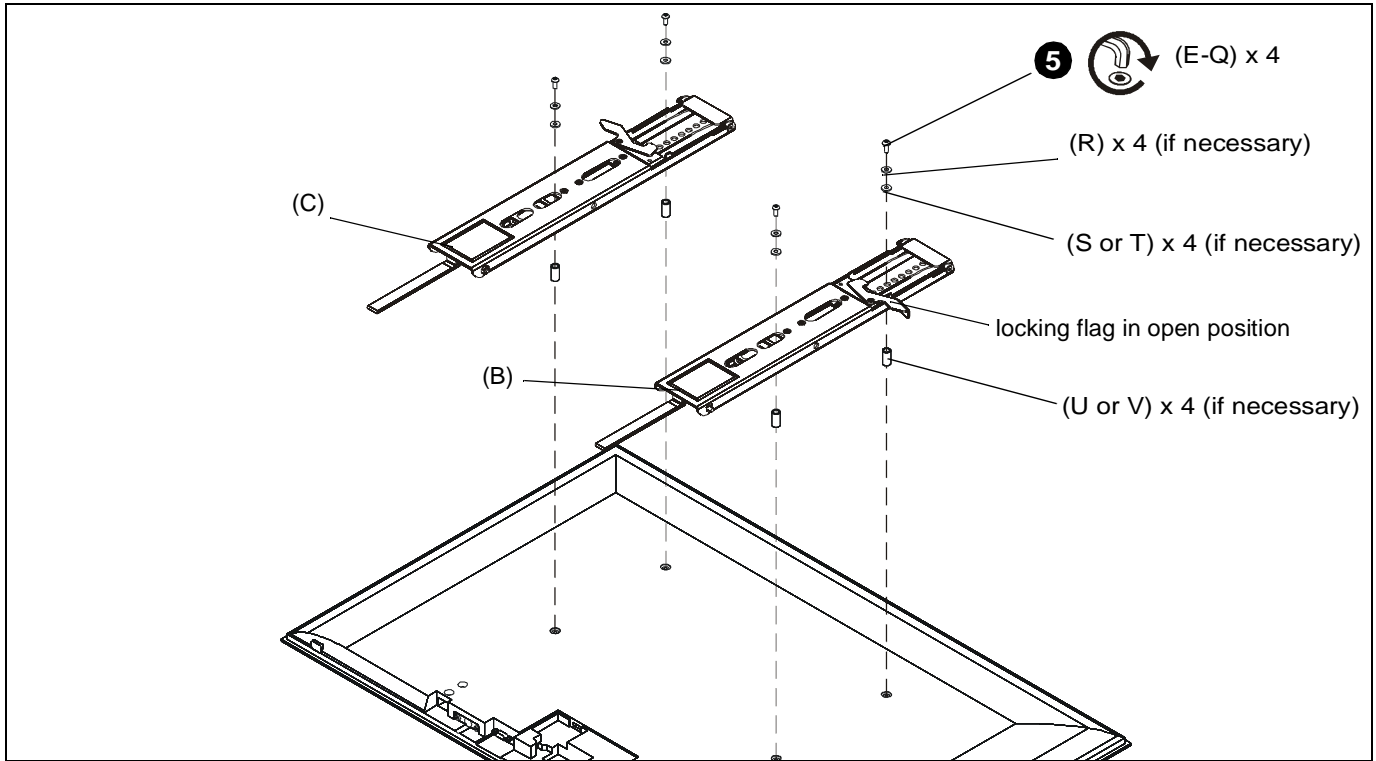

Figure 4
5. Install four button head cap screws (E-Q) through required washers (R) and shoulder washers (S or T), interface brackets (B and C), spacers (U or V) and into holes on back of display. (See Figure 4)
**NOTE:** Make sure locking flags are in the open position before attaching display to wall plate. Flags are shown in the open position in Figure 4.